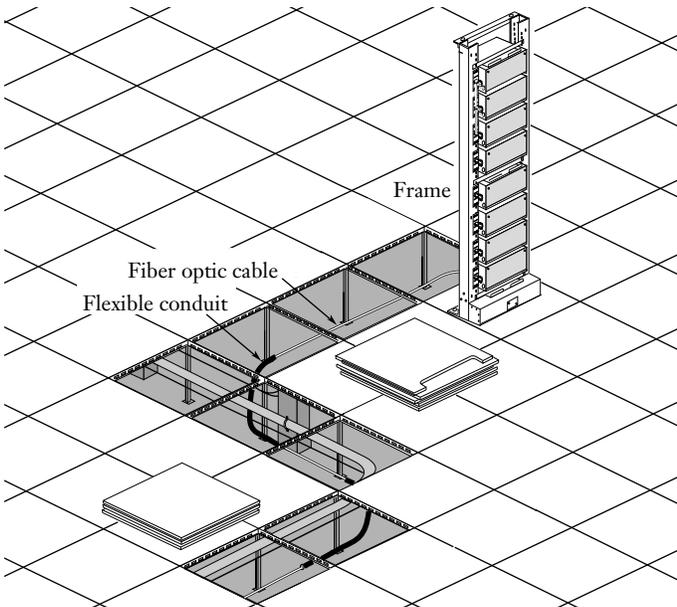

Figure 19
- Use flexible conduit for additional crush/mechanical protection in areas of high potential damage, such as congested, highly used computer room false floors (Figure 19).